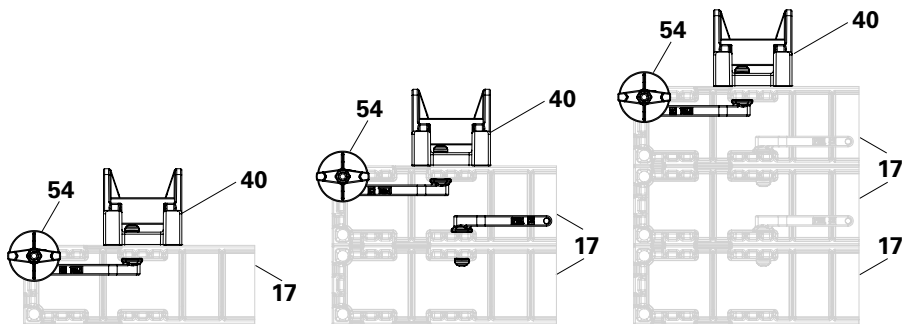

Fig. B10.13
When mounting the DES extension support (40) on a DFP filler panel (17), additional ties including DW 15 wingnut counterplates (54) are to be installed. Mount ties in the top DFP filler panel (17) on the joint to the DES extension support. (Fig. B10.13)